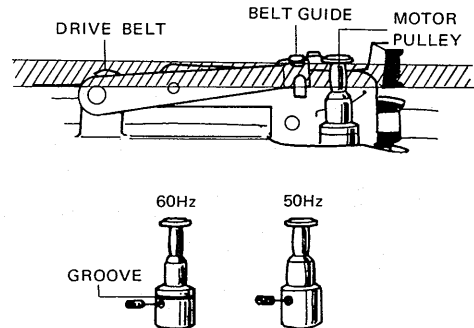

Fig. 19
4. The drive belt should be positioned in the belt guide and around the center of the upper (smaller) part of the motor pulley. To achieve this, it may be necessary to loosen the pulley once more and adjust its height (Fig. 19).